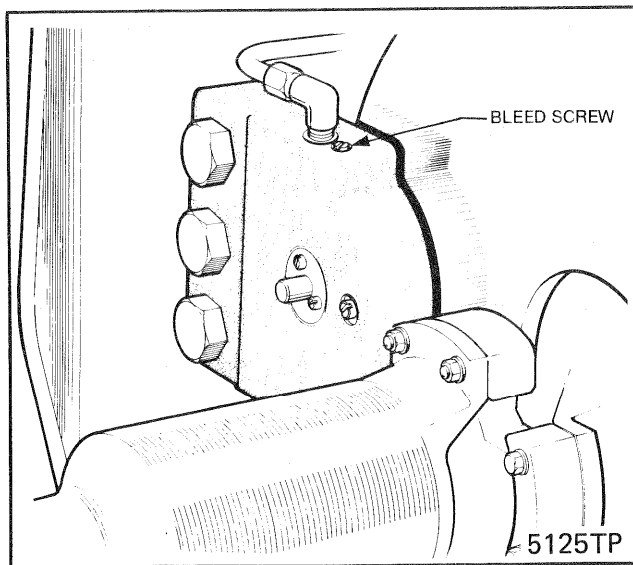

Fig. 13-3 Bleed Screw Location
2. With the aid of a helper, open the bleed screw on the brake housing in Fig. 13-3 and depress the brake pedal to expel any air and fluid from the lines.